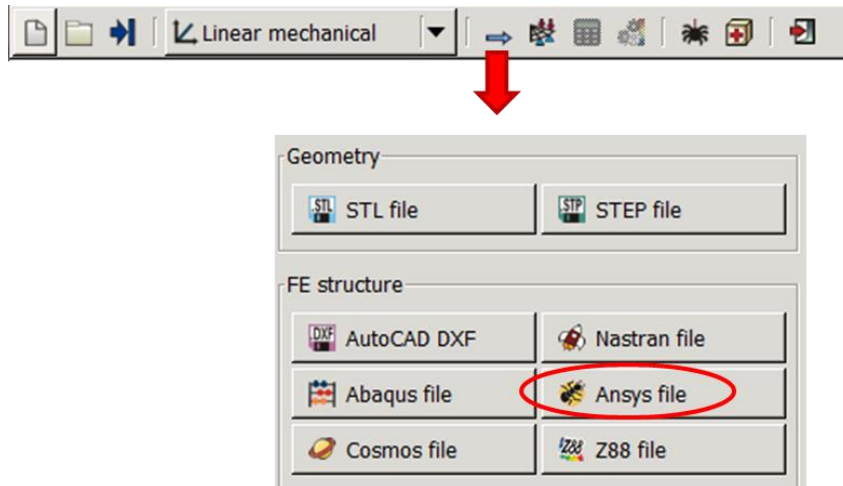

Figure 29: Accessing the ANSYS converter Z88ANS
3. Import the simulation model into Z88Aurora as described in figure 29. For this purpose select *File > Import > ANSYS file*.